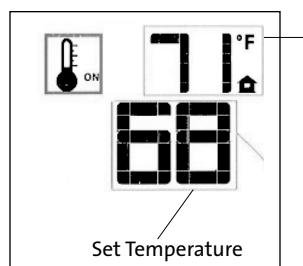

Figure 16.14. Thermostat ON.
- To activate this function, press the Thermostat Key. The display will indicate that the room thermostat is “ON” and the current Set Temperature is now displayed. Fig. 16.14.